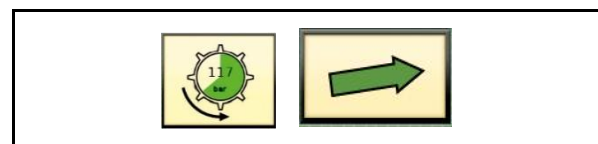

Fig. 155
- The symbols "Fill pick-up milling cutter" (Fig. 155/left) and "Fill elevator conveyor" (Fig. 155/right) appear in the terminal.
7. Move close to the silo stack such that the scraper bar (5) tightly fits the silo stack.